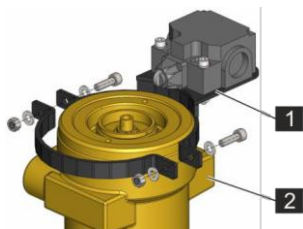

Fig. 6: Installation on valve
2. Install both parts of the support (Fig. 6/1) at the ring surface at the top of the valve (Fig. 6/2) using enclosed screws, washers and nuts. Tighten the screws with a torque of $5 \pm 0.5 \text{ Nm}$ ($3.69 \pm 0.37 \text{ ft-lb}$).